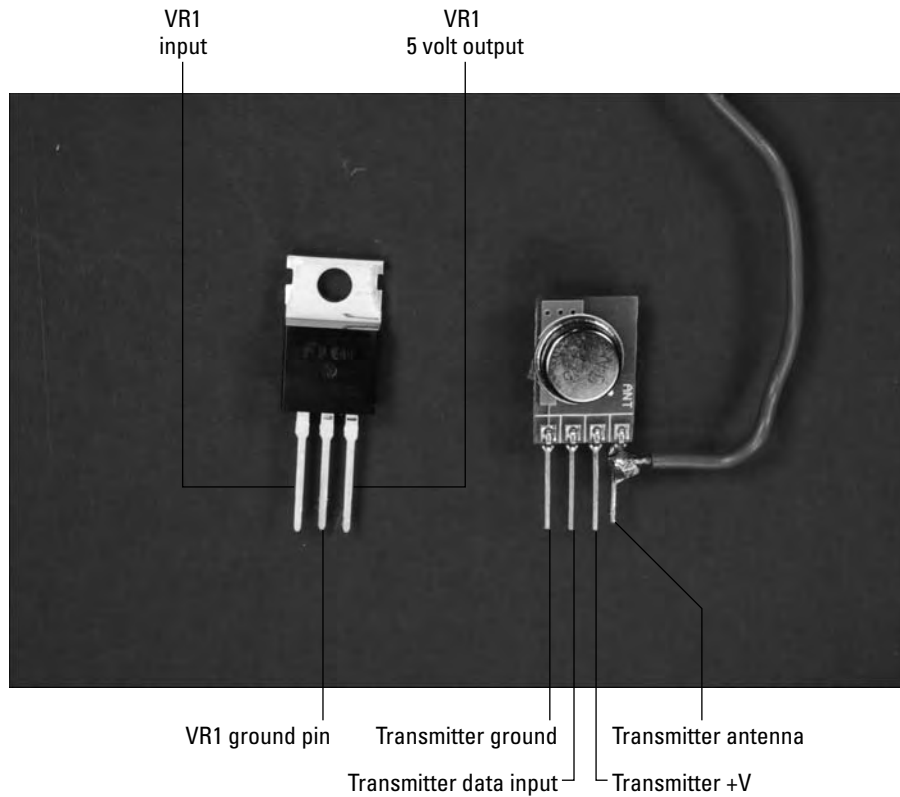

Figure 13-8: Transmitter and voltage regulator (VR1) pinouts.
2. Solder an antenna wire to Pin 4 of the transmitter module, as shown in Figure 13-8.